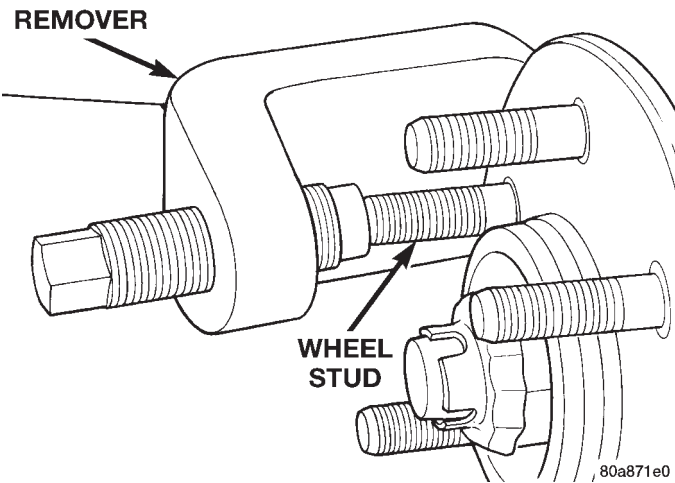

Fig. 10 Wheel Stud Removal
(4) Remove stud from hub with Remover C-4150A (Fig. 10).